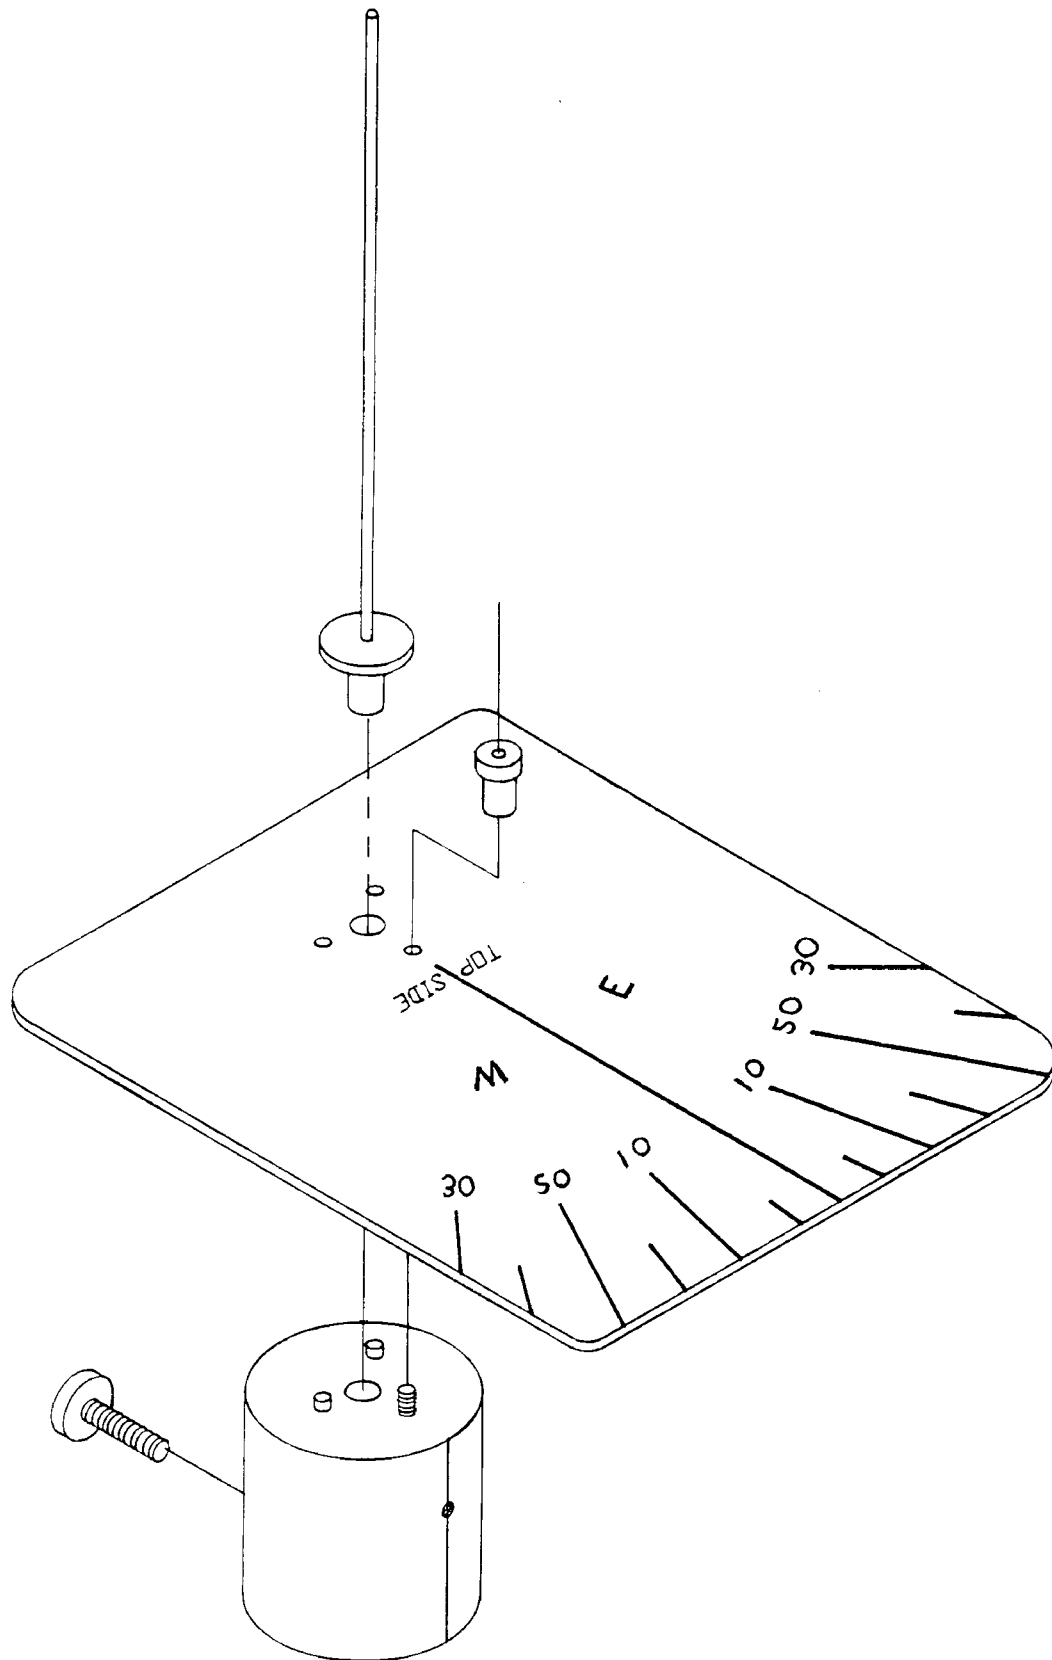

Figure 4.5.1. Wind Direction Sensor Alignment Tool
4.5.2.5.1 Solar Noon Wind Direction Sensor Alignment Procedure. The preferred method of aligning the wind direction sensor is to use a special alignment tool (Figure 4.5.1) at the time of solar noon to cast a shadow at a known reference point on the tool. To perform this procedure, the maintenance technician must be able to calculate when solar noon will occur at the site. To do this, a special software program is used. The program is called SUN and runs on any laptop or PC. In order for the program to calculate solar noon for a given site, the maintenance technician must input the site's latitude and longitude, the Julian date, and the site's Greenwich Mean Time (GMT). Greenwich Mean Time is also called ZULU or UTC time. Latitude and longitude can be obtained from the ASOS site survey or the OID's site physicals page. Julian dates are shown on the Julian calendar, figure 4.5.2. With these inputs, the SUN program will provide the time that solar noon will occur for that day at that specific site. Because the sun casts a shadow at 0 degrees on the tool at solar noon, the technician must be aware of the time constraints of this procedure. When performing the procedure, the technician must calculate the time at which solar noon will occur, install the alignment tool on the wind tower, and raise the tower to a vertical position 20 minutes before solar noon occurs. At 20 minutes before solar noon, the shadow cast on the tool by the sun is checked; the shadow should occur at 5 degrees. If the shadow is not at the 5-degree mark on the "E" side of the calibration template, the technician must lower the tower, align the wind sensor's housing, and raise the tower as quickly as possible. For every 4 minutes that expire after 20 minutes before solar noon, the shadow moves approximately 1 degree; therefore, at 10 minutes before solar noon, the shadow is approximately at the 2.5-degree mark on the "E" side of the calibration template. When adjusting the wind sensor's housing, it is easy to adjust the housing in the wrong direction. If the tower is tilted to the west after servicing and the shadow is too far west at 20 minutes before solar noon, the technician must turn the housing down toward the west mark by the number of degrees that it is out. For example, if at 20 minutes before solar noon the shadow is pointing to approximately 12 degrees on the "E" side of the calibration template, the technician lowers the tower over to the west and corrects the alignment by adjusting the housing 7 degrees to the east. This is accomplished by moving the housing clockwise toward the "W" mark on the orientation plate of the tool. If the error is to the east, the technician corrects the alignment by moving the housing to the "E" mark. The solar noon alignment procedure is detailed in table 4.5.3.